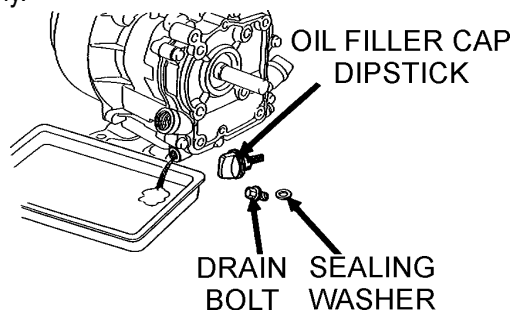

Figure 26. Engine Oil (Draining)
- Drain the engine oil when the oil is **warm** as shown in Figure 26.